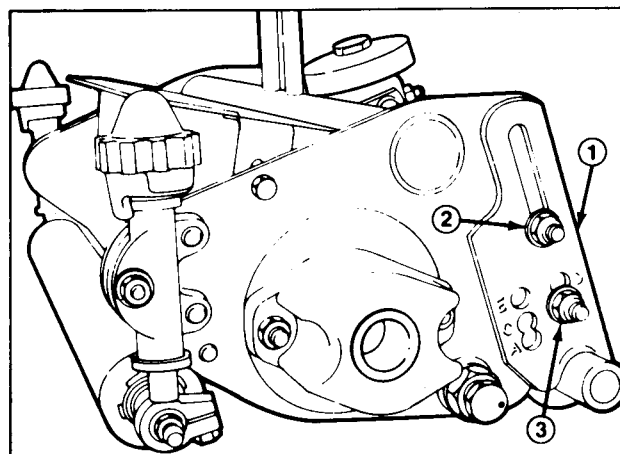

Figure 10
2. Assemble rear height of cut brackets to desired position, by loosening top capscrew and nut and removing bottom nut on right and left hand sides of cutting unit (Fig. 10).